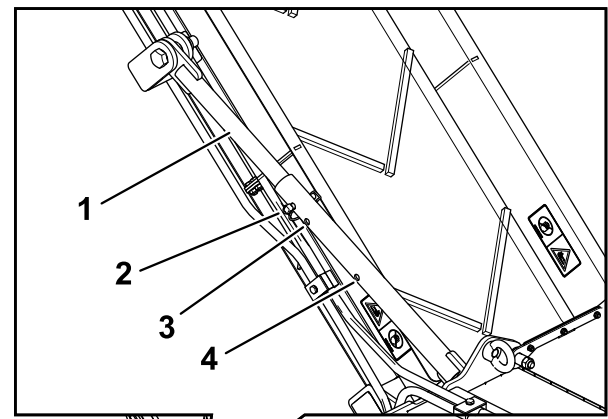

Figure 22
6. Adjust the lift conveyor and secure the arm in the desired position (Figure 22).